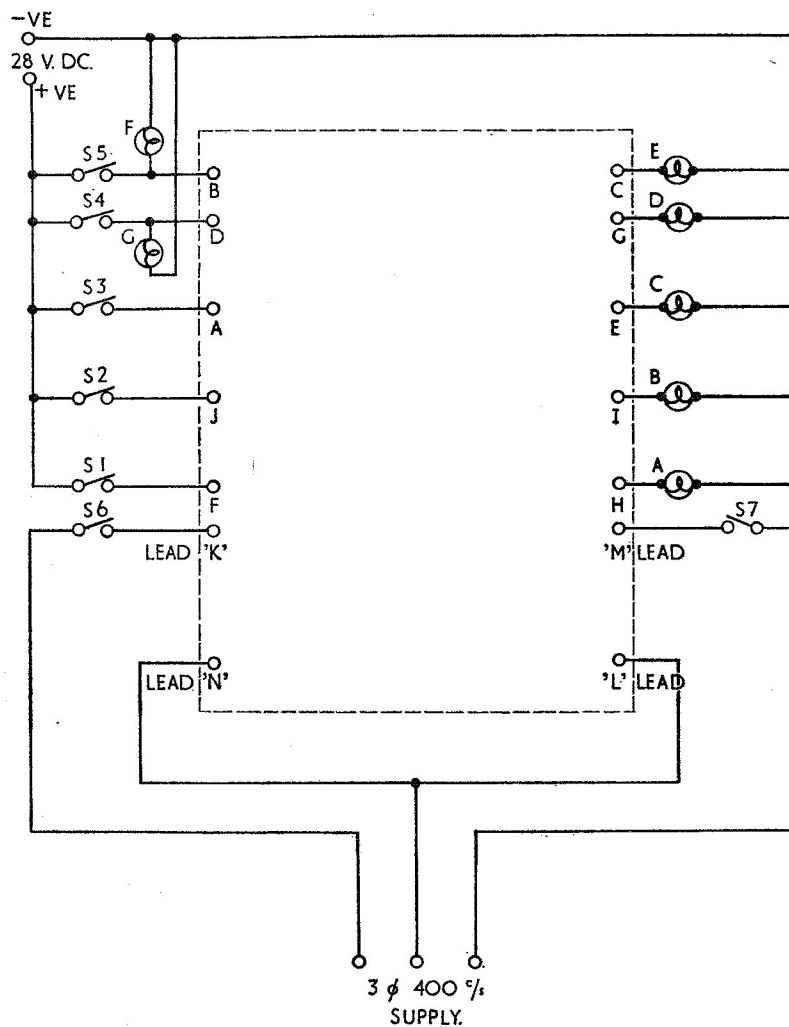

Fig. 3. Test circuit
18. Connect the unit to the test circuit (fig. 3). Perform the tests set out in Table 1 and record the voltage at which the lamps change (col. 3).